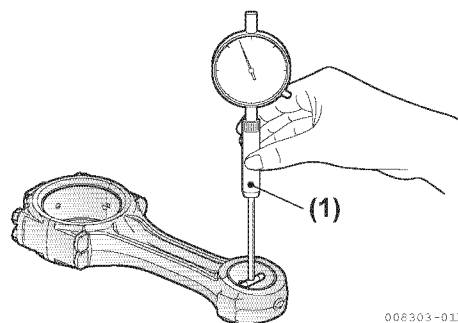

Figure 5-102
- Measure the piston pin bearing inside diameter and the piston pin outside diameter. Calculate the oil clearance from the difference of the measured values (**Figure 5-102**). See *Measure the outside diameter, roundness and taper at each crank pin and journal. Resurface the crankshaft pins and journals if measurements exceed specifications. on page 5-73.*